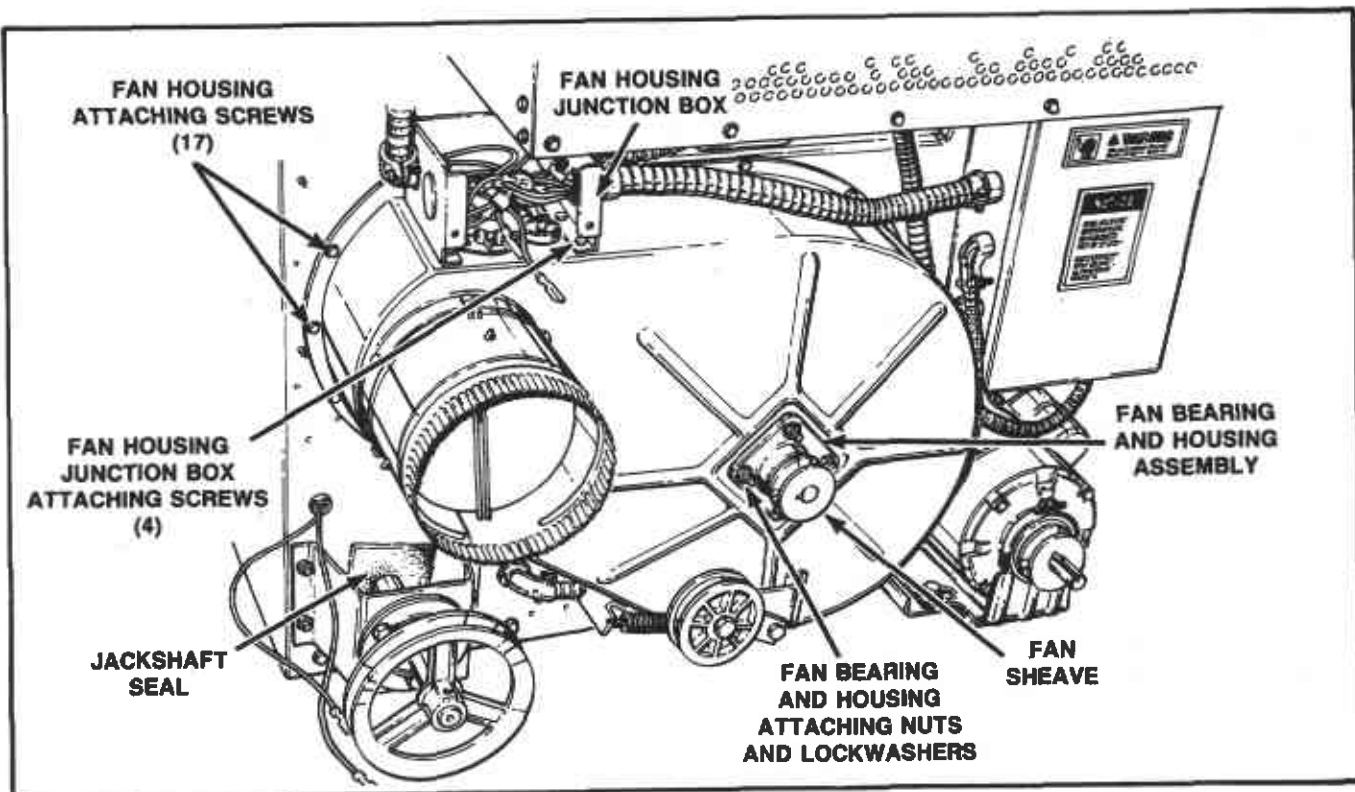

Figure 30
d. Remove screws from fan housing junction box cover and remove cover, *Figure 30*.
g. Remove 17 screws holding fan housing to cabinet back, *Figure 30*.